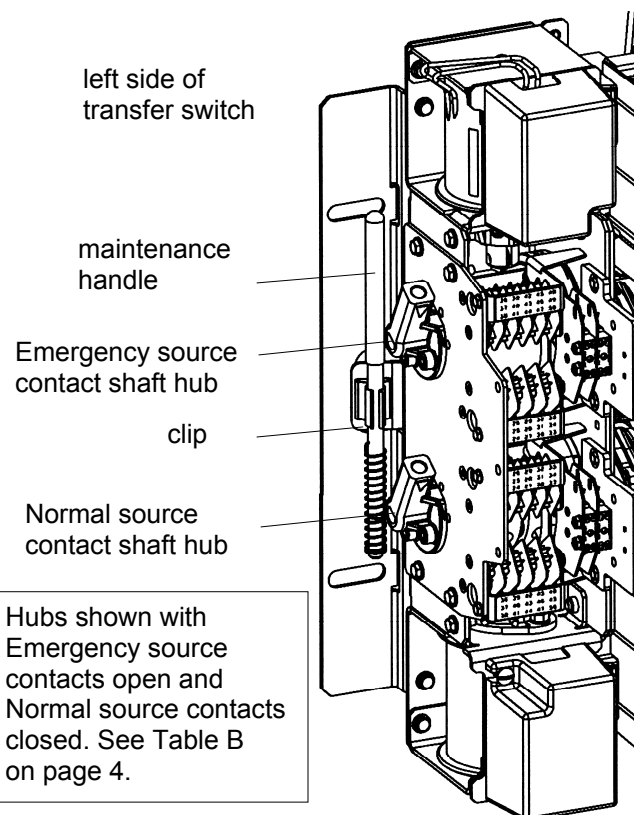

Figure 5. Maintenance handle on 3ADTS & 3NDTS
3. 3ADTS and 3NDTS have two contact shaft hubs. See Figures 5 and 6 and Table B.